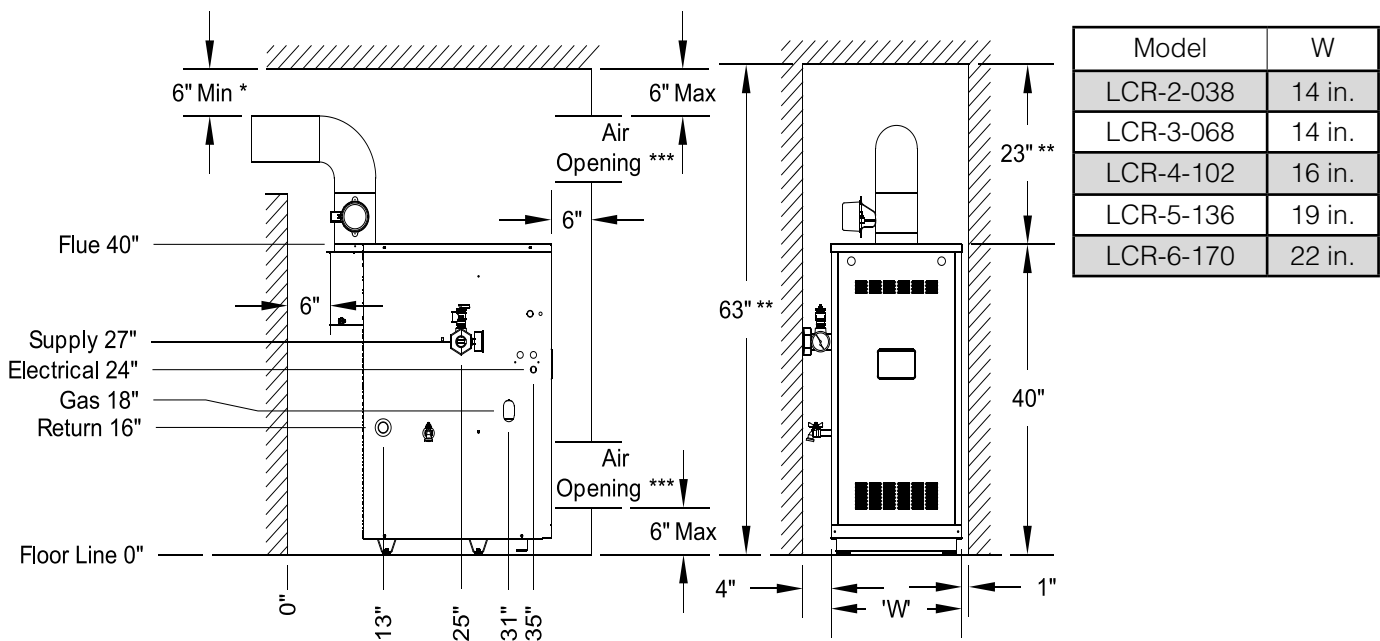

Figure 4-2: Minimum Closet Clearances
1. Provide clearances between boiler jacket and combustible material in accordance with authority having jurisdiction. Minimum clearances to combustible material shown in Figure 4-2.
- Maintain clearances to vent piping and draft hood per Figure 4-2.
1. Locate boiler as close to chimney as possible. See Figure 4-2 for minimum clearances.
- A. See Table 3-2 for vent sizes. See Figure 4-2 for clearances.